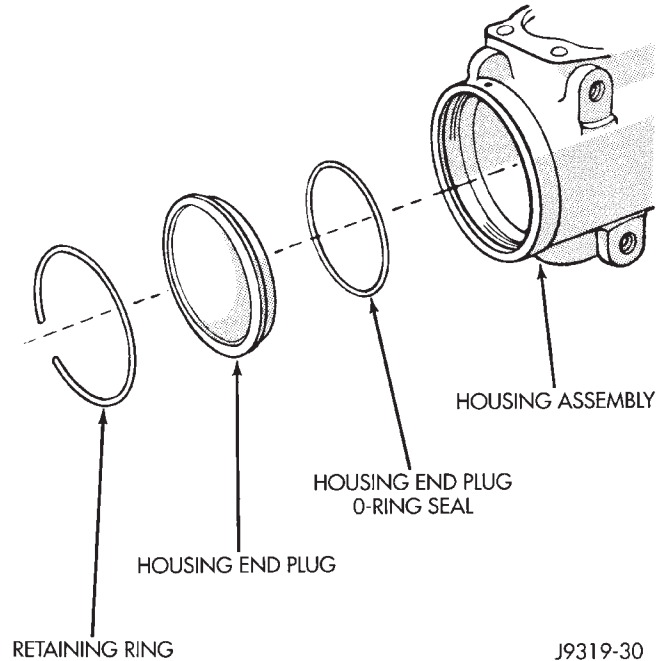

Fig. 6 End Plug Components
(3) Remove O-ring from the housing (Fig. 6).